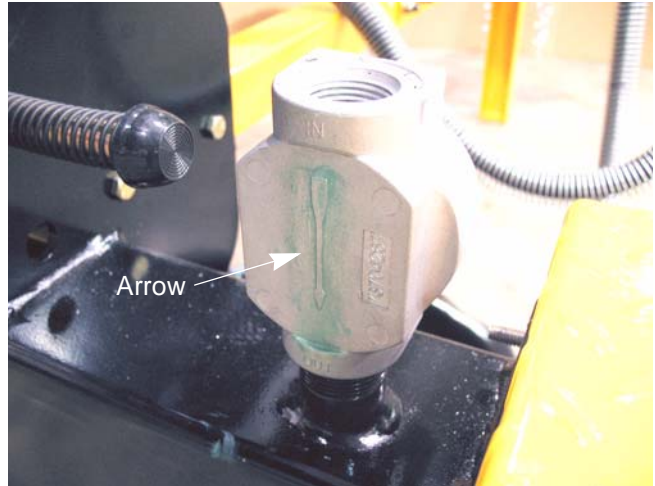

Figure 7.15
**NOTE:** There is an arrow cast into the oil filter housing. The arrow must be pointing to the tank. See Figure 7.15.